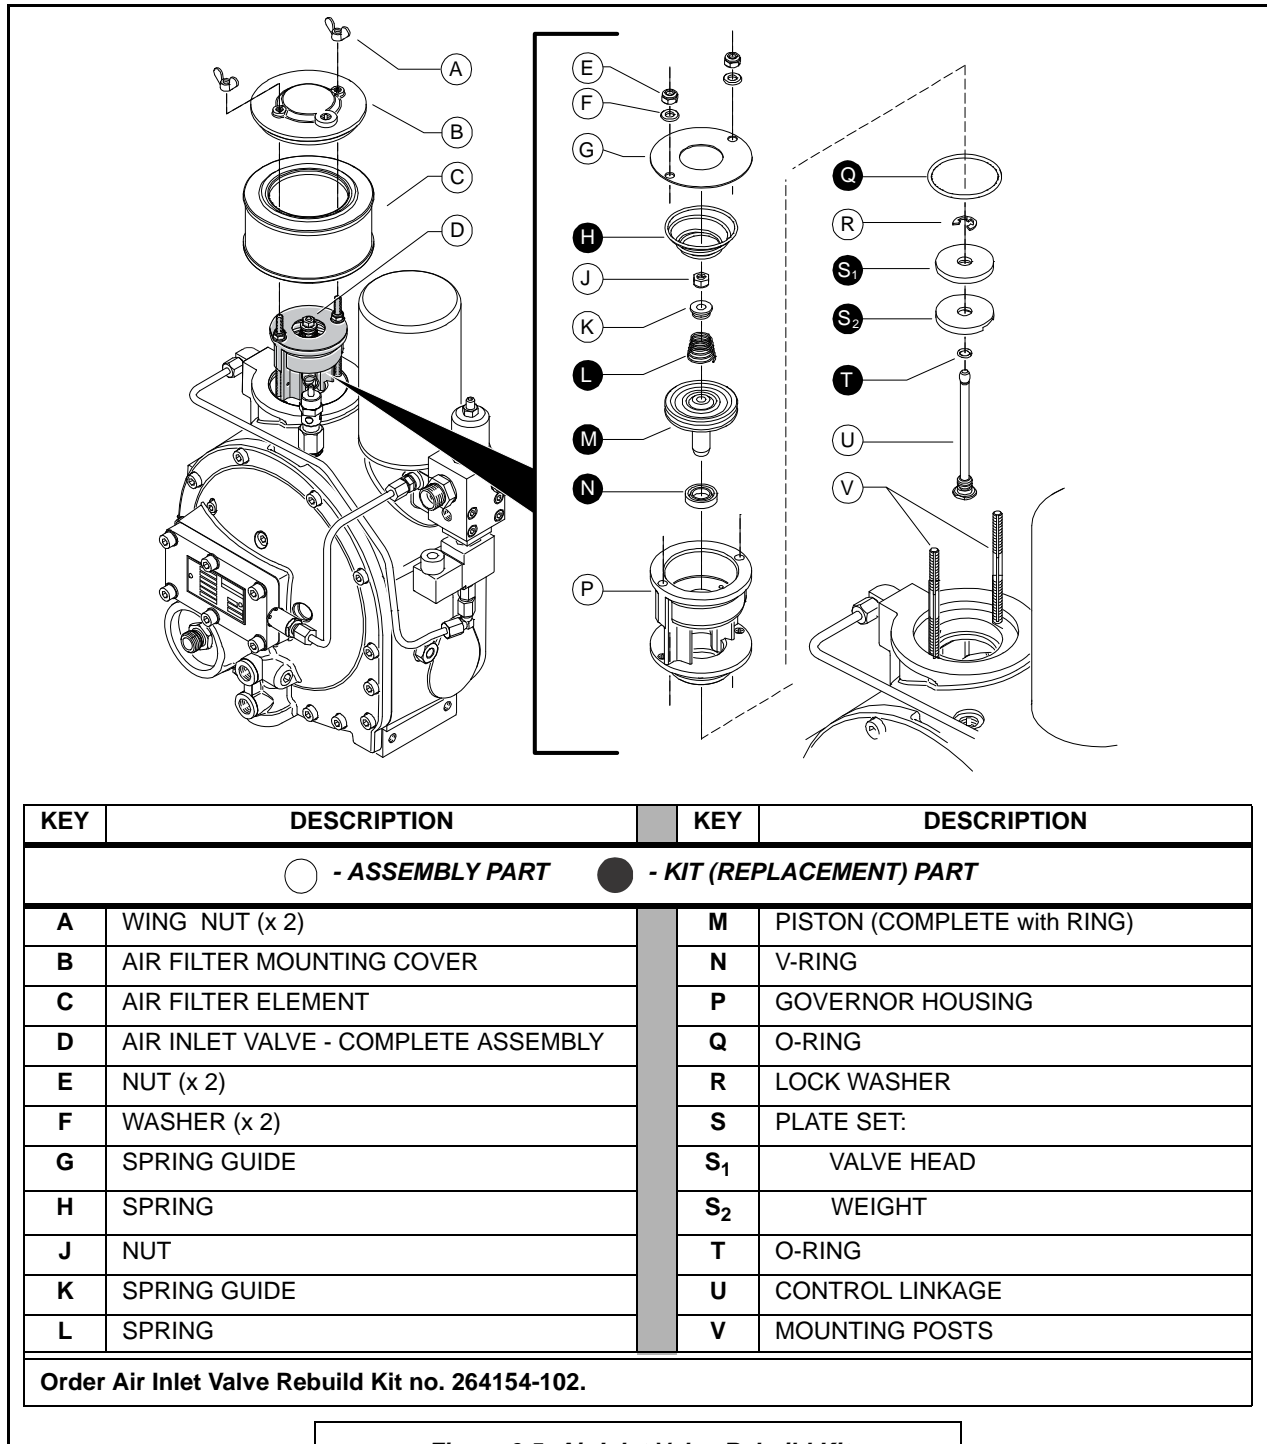

Figure 6-5: Air Inlet Valve Rebuild Kit
Should a condition occur that requires air inlet valve maintenance (see **Section 7.2, Troubleshooting Guide**), a repair kit is available. To repair the air inlet valve, order air inlet rebuild kit no. 264154-102. Refer to **Figure 6-5**, and the following procedure:
2. Locate the compressor's air filter compartment housing and remove the two (2) wing screws [A] from cover [B].
4. Remove the two (2) nuts [E] and two (2) washers [F] from the mounting posts [V].
6. Disassemble the valve and replace used parts with new parts found in the kit. Refer to **Figure 6-5** to assure correct part positions for re-assembly.